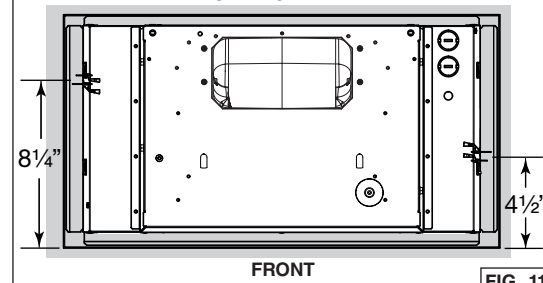

FIG. 11
5. Pay attention to the Ease of Install hooks location on the unit (distance given from unit front flange, FIG. 11). Measure and mark the position of the Ease of Install hooks (shown as E in FIG. 12 on next page) on both cabinet side walls.